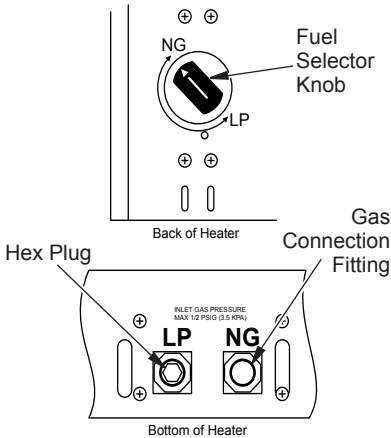

Figure 4 - Settings for Natural Gas Selection
1. Remove top screw from cover plate located on back of heater (see Figure 4). Rotate to expose fuel selection device.
2. For NATURAL GAS, press knob using a flat screwdriver with a blade with thickness of a quarter and turn knob clockwise until the knob locks into the NG position (see Figure 4). Fuel selection device must be locked in the NG position. Do not operate heater between locked positions!
4. Remove hex plug (with wrench provided) from natural gas inlet of regulator and install into LP inlet of regulator (see Figure 4). Use thread sealant to ensure that there are no leaks.